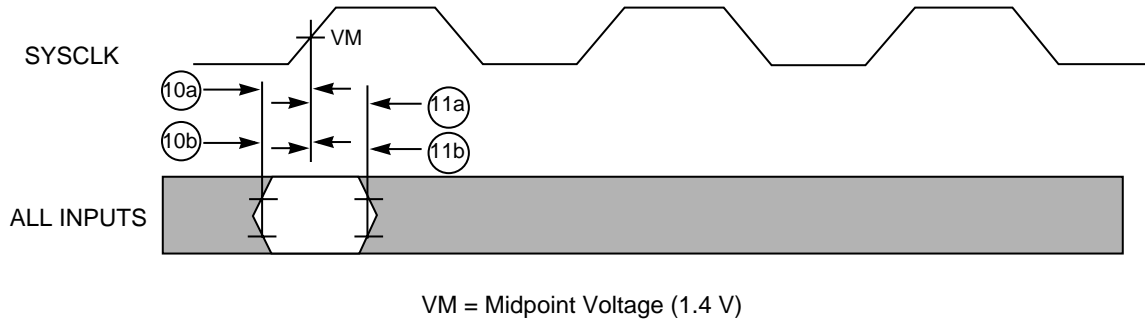
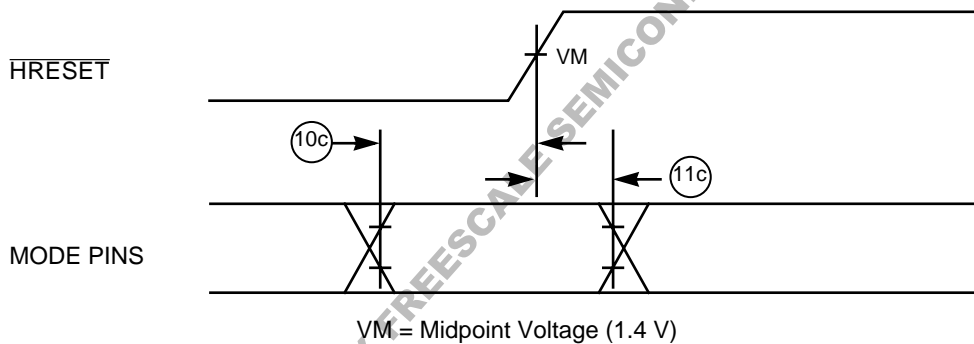

Figure 2. Input Timing Diagram
Figure 3. Mode Select Input Timing Diagram
Table 8 provides the input AC timing specifications for the PID7t-603e as defined in Figure 2 and Figure 3.
- The setup and hold time is with respect to the rising edge of $\overline{\text{HRESET}}$ (see Figure 3).
Figure 2 provides the input timing diagram for the PID7t-603e.
Figure 3 provides the mode select input timing diagram for the PID7t-603e.